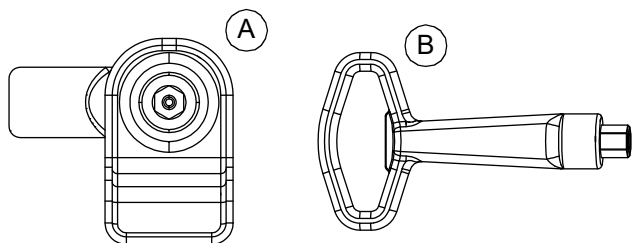

Figure 5-4. Access Panel Key and Latch (Typical)
1. See Figure 5-4. Insert key (B) into thumb (A) latch and rotate counterclockwise one-half turn.